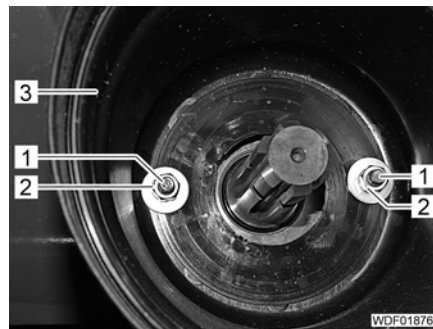

Fig. 585 Fastening of the power take-off shaft protection
- Unscrew 2 nuts (Fig. 585,2).
- Remove power take-off shaft protection (Fig. 585,3).
- Attach new power take-off shaft protection (Fig. 585,3) to the threaded bolts (Fig. 585,1).
- Screw 2 nuts (Fig. 585,2) with washers and spring washers onto thread and tighten.